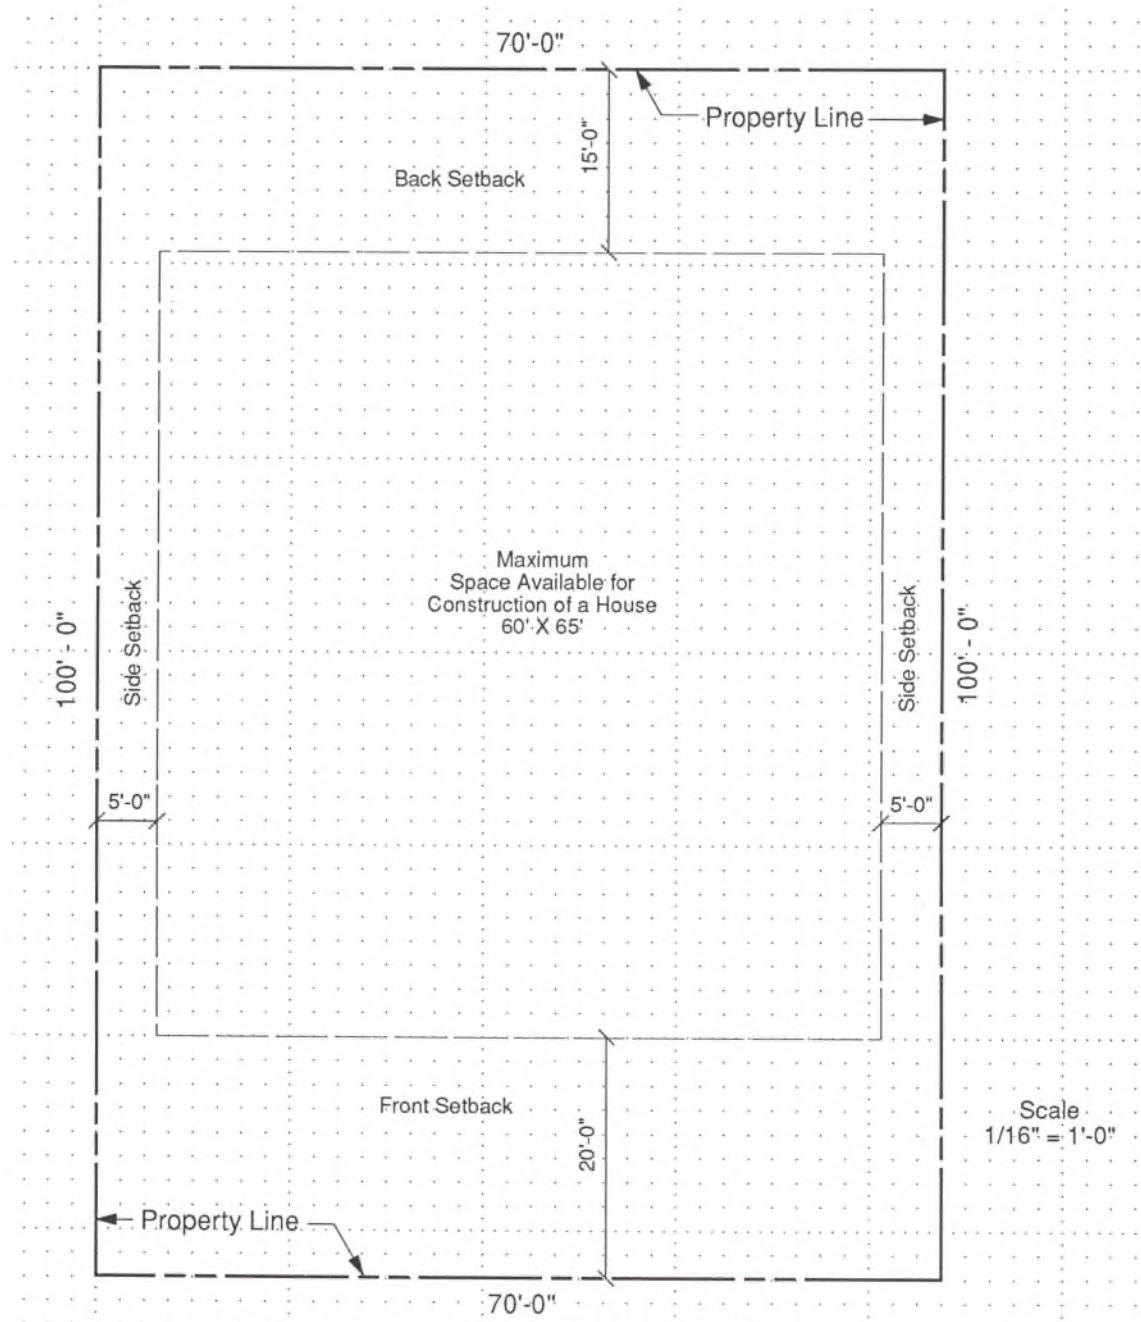

Fig. 26.2 Setbacks, indicated with a dashed line, have been added to the plot plan.
Setbacks are requirements pertaining to the placement of a house on a lot. City or county planning departments in each area require that houses be set back from the property lines a certain distance. Typically, a minimum setback of 15' to 20' is required from the street front property line to the front of the house; 5' is required from each side property line of the lot to each side of the house. A minimum of 15' is required from the back property line to the back of the house. Refer to Fig. 26.2.
1. When you have drawn the lot property lines and verified local setback requirements, indicate setbacks as shown in Fig. 26.2. Copy the short dashed lines used for this purpose.
In Fig. 26.2 you see that the maximum width available on the lot, after deducting setbacks, is 60'. Since the lot is 100' deep and the front and back setbacks combined total 35', the remaining lot depth is 65'. There are any number of possibilities for the use of this 60' x 65' space; as described farther along in this chapter.